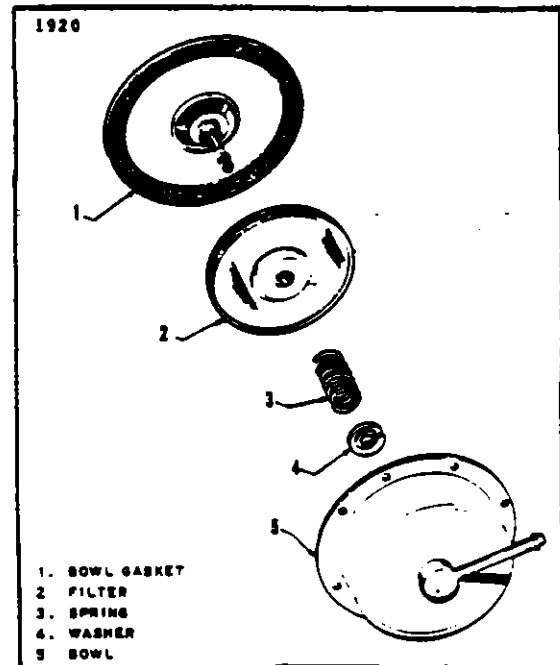

FIGURE 8-14. FUEL STRAINER
- d. Remove filter disc assembly from center stem by compressing filter retainer spring and removing filter retainer washer. (Refer to figure 8-14)